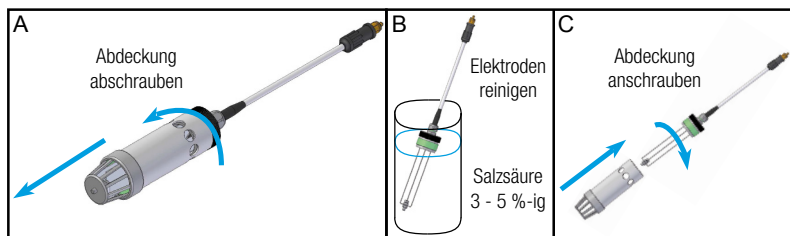

Fig. 12 A-C: Clean electrodes
3. Unscrew the cover of the electrolytic cell (see fig. 12 A).
4. Remove the lime scale deposits by submerging the electrodes in the lime scale remover (see fig. 12 B).
5. Screw the cover onto the electrolytic cell (see fig. 12 C).